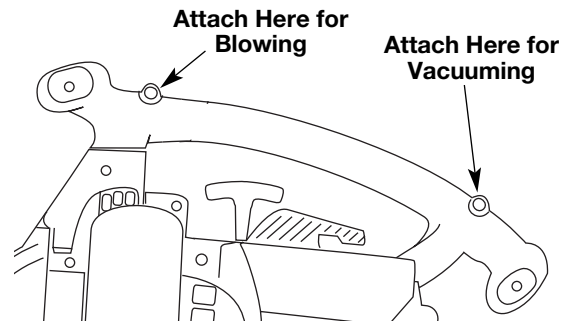

Fig. 7
3. Snap the clip on to the support fittings on the front or back of the handle. Clip to the front portion of the handle when using the unit as a blower, and clip to the back portion of the handle when using the unit as a vacuum (Fig. 7).